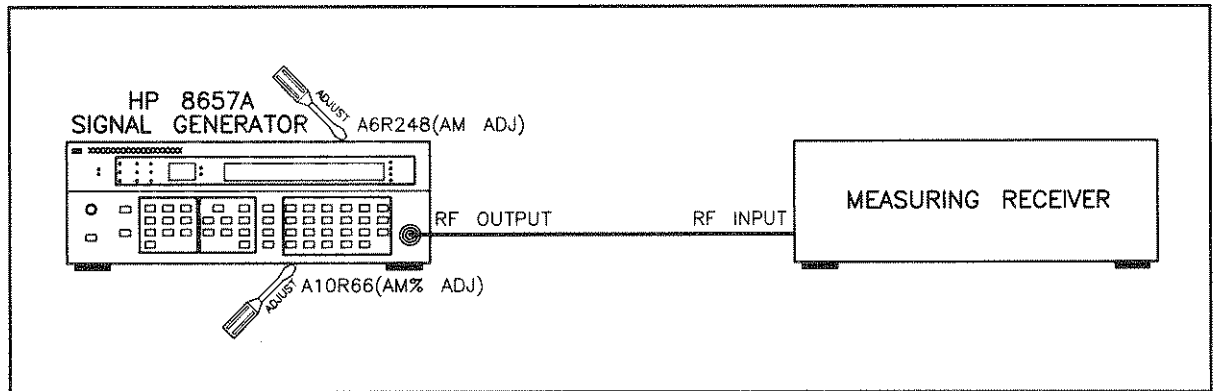

Figure 5-15. AM% and ALC Loop AM Adjustments Setup
3. Connect the measuring receiver to the RF OUTPUT connector on the Signal Generator and connect the distortion analyzer as shown in Figure 5-15.